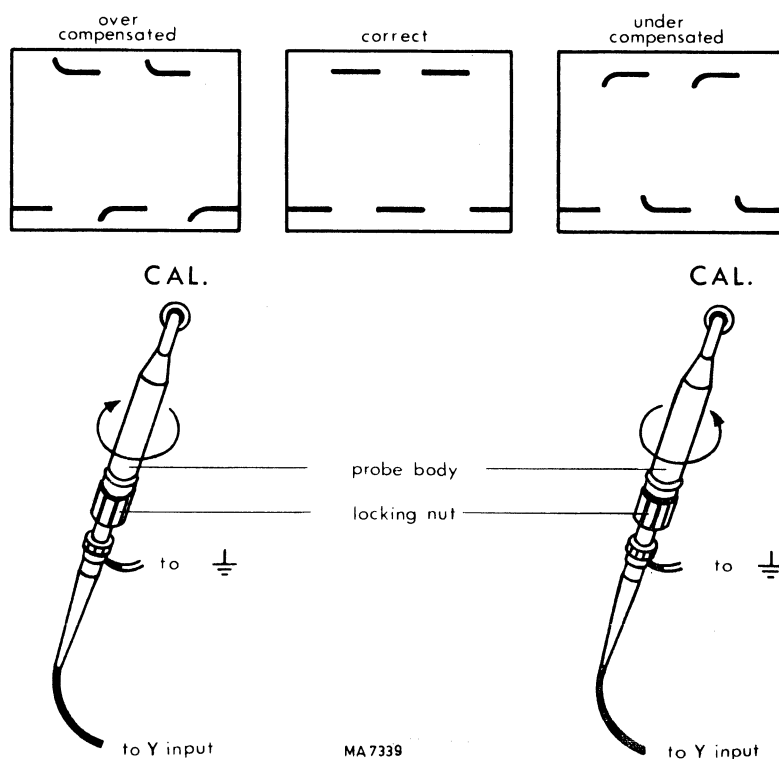

Fig. 3.25. Adjusting an attenuator probe
3.5.3.2. Adjustment (Fig. 3.25.)